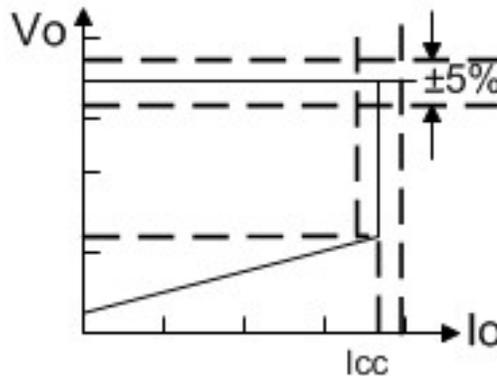

Fig.1 : Typical CC/CV curve
The ME8317 is a high performance offline PSR controller for low power AC/DC charger and adapter applications. ME8317 integrates a high voltage power CoolMOS of 600V,2A. It operates in primary-side sensing and regulation. Consequently, opto-coupler and ME431 could be eliminated. Proprietary Constant Voltage (CV) and Constant Current (CC) control is integrated as shown in the figure.1 below.
ME8317 is designed to produce good CC/CV control characteristic as shown in the Fig.1. In charger applications, a discharged battery charging starts in the CC portion of the curve until it is nearly full charged and smoothly switches to operate in CV portion of the curve. The CC portion provides output current limiting. In CV operation, the output voltage is regulated through the primary side control. In CC operation mode, ME8317 will regulate the output current constant regardless of the output voltage drop.